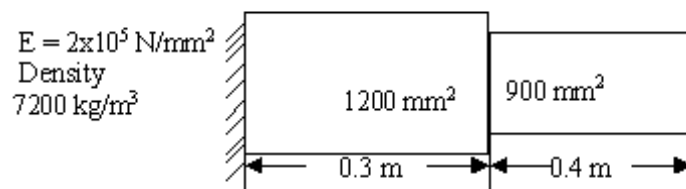

Figure 1
1. Consider the axial vibrations of a steel bar shown in the figure 1: